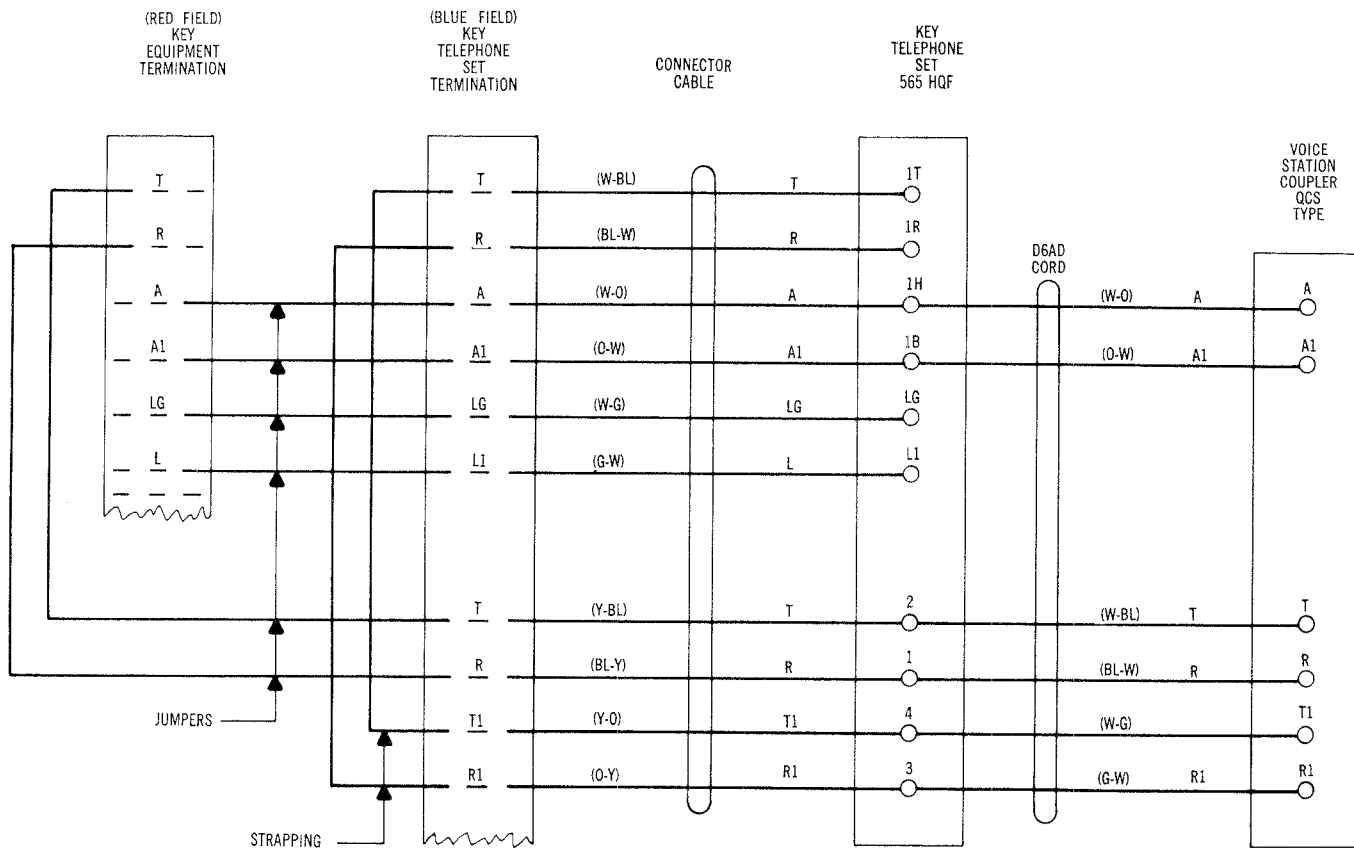

Fig. 6 - Voice Station Coupler
3.10 On key systems where 6 button key type telephones are used and it is not practical to run a separate cable for the voice station coupler, install a 565 HQF key telephone set and connect as shown in Fig. 6.